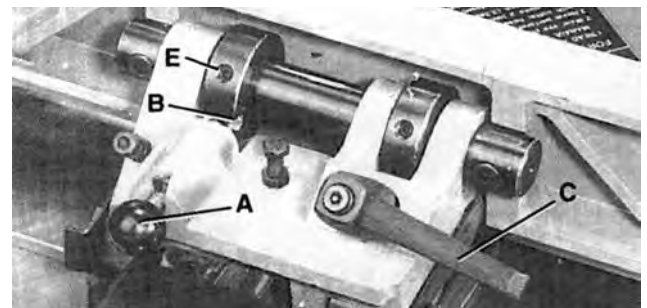

FIGURE 41
1. Position the fence at 90° to the table. Make sure the end of plunger (A) Fig. 41, is engaged in notch (B) in index collar as shown, and tighten lock handle (C).
3. If an adjustment is necessary, loosen set screw (E) Fig. 41, in the index collar and loosen fence locking handle (C).
4. Tilt the fence until you are certain the fence is 90° to the table and tighten lock handle (C) Fig. 41, and set screw (E).